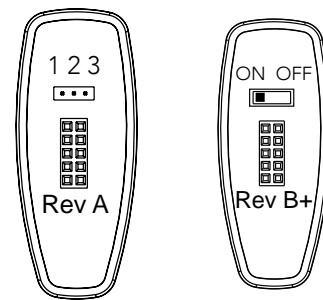

Figure 68. Bluetooth Switch
3. Move the jumper or switch to the ON position. (Left two pins on three pin version or to the left on slide switch, Figure 68)